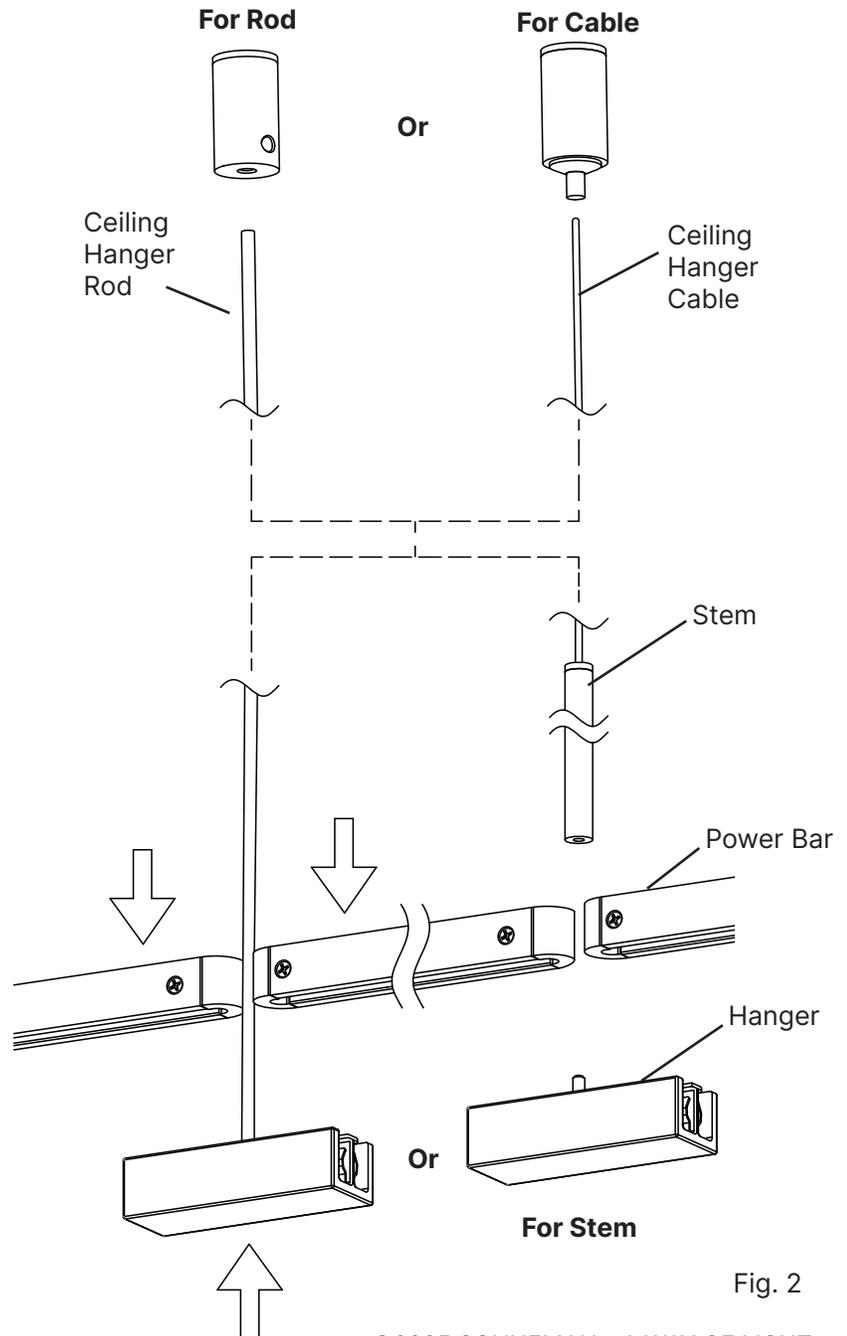

Fig. 2
1. Press down firmly on the top of the **Power Bar Hanger**, while pressing up on the bottom of the **Power Bar**, until the Power Bar Hanger clicks into place (Fig. 2).